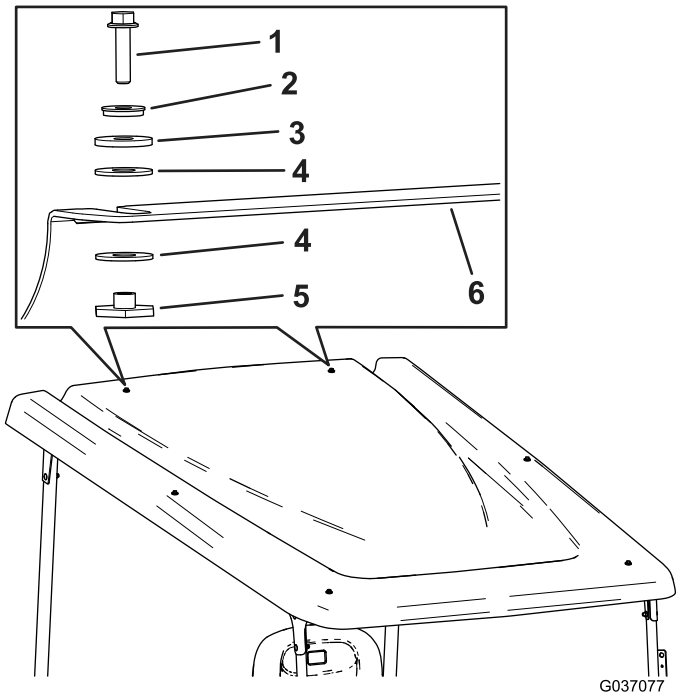

Figure 16
17. Install the sunshade to the rear crosslink using 2 hex-flange bolts (1/4 x 1 inch), 2 sealing washers, 2 friction washers, 4 plastic washers, and 2 flange bushings (Figure 16).